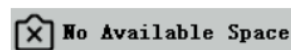

Figure 6-2
2. When pressing the snap button, recording videos, and taking photos at a fixed time, “insufficient available space” will be displayed, as shown in Figure 6-2. Please sort out the SD Card space on the computer before inserting the camera for use.